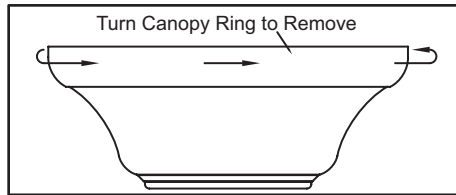

Figure 5
2. Remove the canopy ring from the canopy by turning the ring to the right until it unlocks (Figure 5).
1. Remove canopy ring from the canopy by turning the ring to the right until it unlocks (Figure 5).